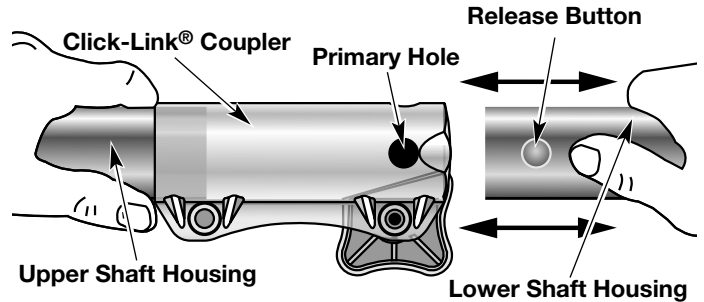

Fig. 12
3. While firmly holding the upper shaft housing, pull the cutting attachment or add-on straight out of the Click-Link® coupler (Fig. 12).
2. While firmly holding the add-on, push it straight into the Click-Link® coupler (Fig. 12).
For edging when using the line head cutting attachment with Click-Link® models, lock the release button of the cutting attachment into the **90° edging hole** or the **180° edging hole**(Fig. 12).